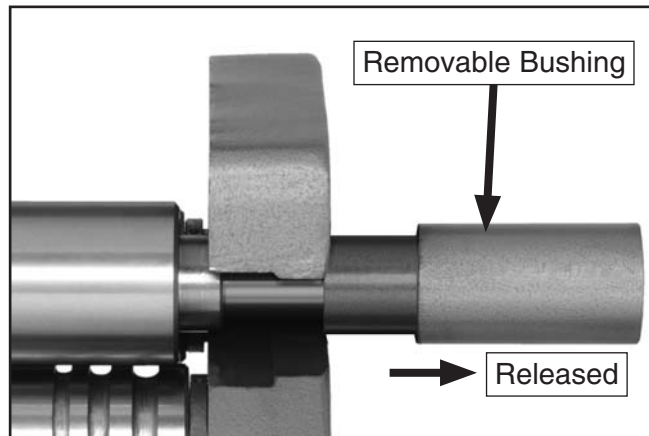

Figure 31. Removable bushing release (T21324 shown).
2. Slide the removable bushing outward. This will release the top roller from the stand (**Figure 31**). Do not yet attempt to remove the top roller.